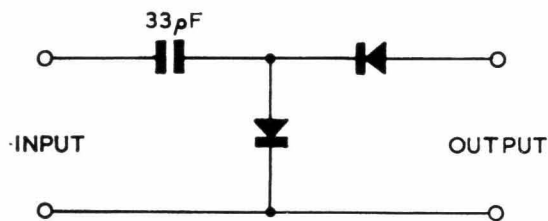

FIGURE 1 PEAK-TO-PEAK DETECTOR
- (iv) A peak-to-peak detector as shown in figure 1.